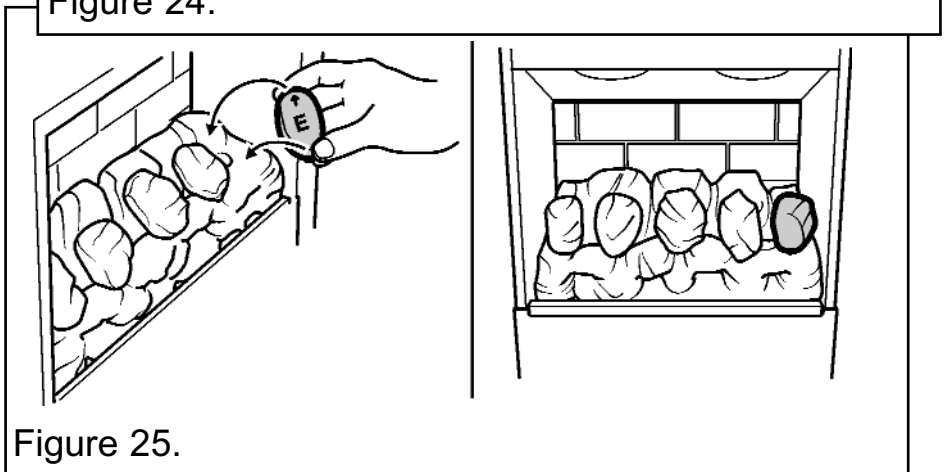

Figure 25.
6. Hold coal 'E' upright with the arrow pointing to the top. Locate coal 'E' as shown in figure 25.